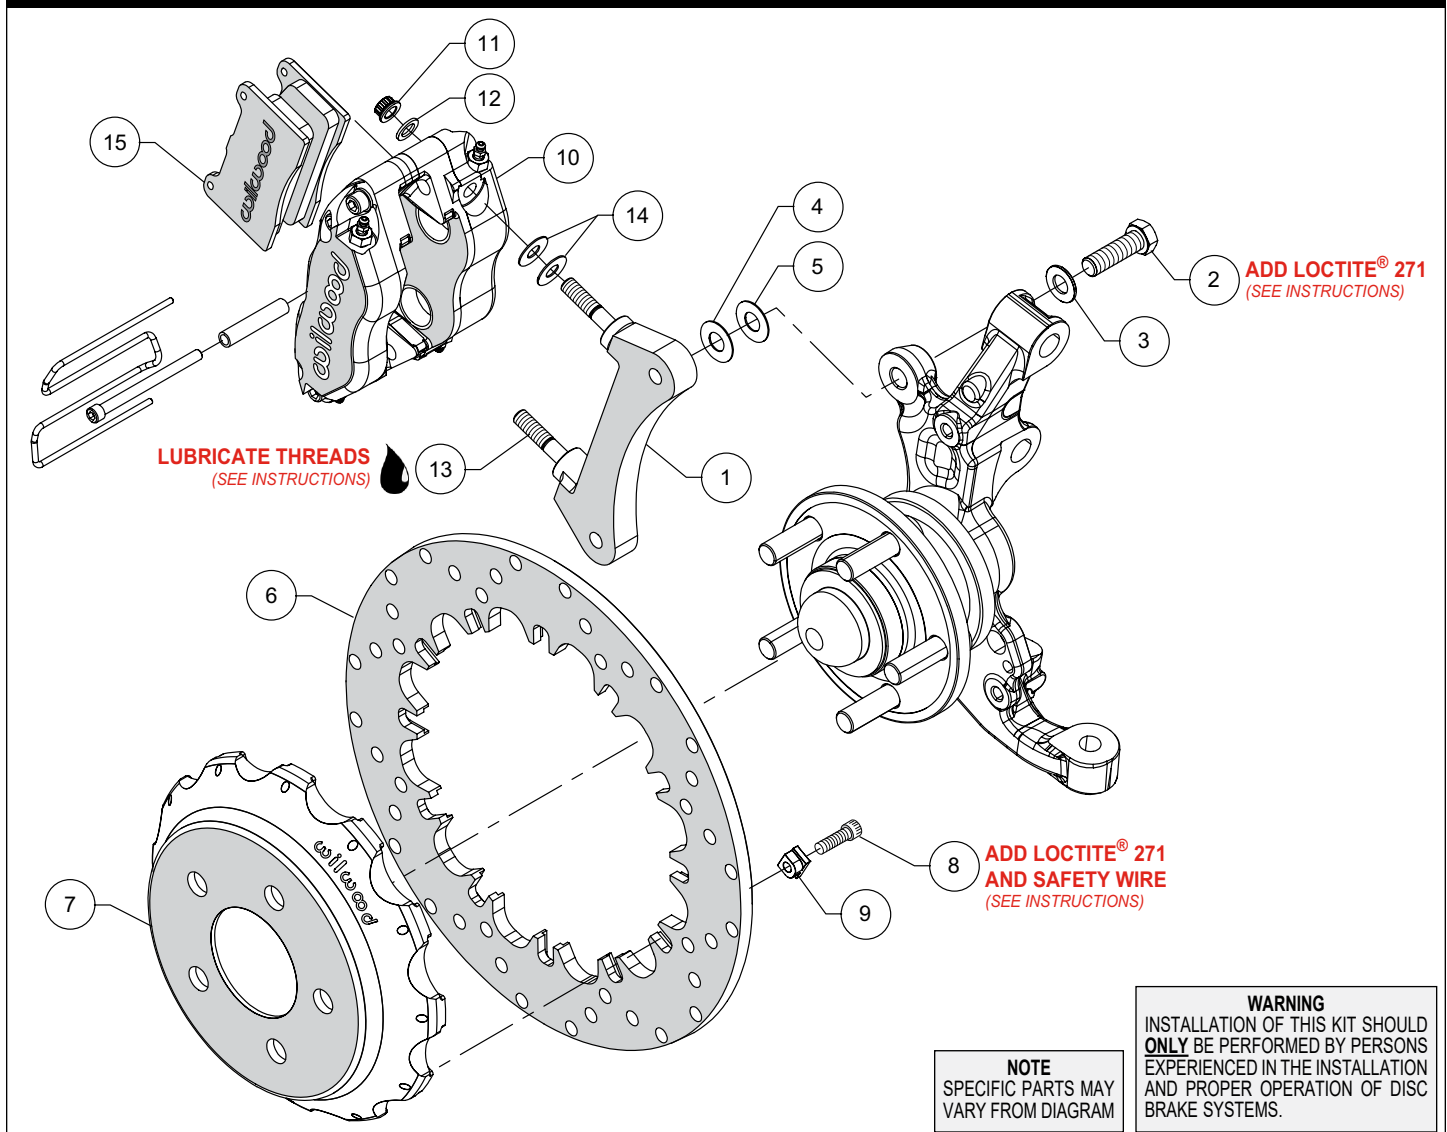
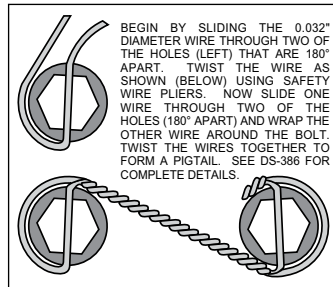

Figure 1. Typical Installation Configuration
Figure 3. Safety Wire Diagram
NOTE: Numbers in parenthesis refer to the parts list and Figure 1 on the preceding pages.
- The caliper mount bracket (1) should initially be installed with clean, dry threads on the mounting bolts. Orient the bracket, as shown in Figure 1 and Photo 1, and install using bolts (2) and washers (3). Initially place one .033" thick shim (4) on each bolt between the bracket and upright, Figure 1. Temporarily tighten the mounting bolts. **NOTE:** The bracket must fit squarely against the mount bosses on the upright. Inspect for interference from casting irregularities, machining ridges, burrs, etc. Later, after the caliper alignment has been checked, the mount bolts will be secured using red *Loctite*® 271.
- Orient the rotor (6) and the hat (7) as shown in Figure 1 and Photo 2. Attach rotor to hat using bolts (8) and t-nuts (9). Apply red *Loctite*® 271 to the bolt threads and torque to 120 in-lbs using a criss-cross pattern. The bolts must be safety wired using standard 0.032 inch diameter stainless steel safety wire as shown in Figure 3. Refer to Wilwood's data sheet DS-386 (available at www.wilwood.com/Pdf/DataSheets/ds386.pdf) for complete safety wire installation instructions.
- Lubricate the caliper mounting studs (13) with lightweight oil. Initially place two .035" thick shims (14) on each stud as shown in Figure 1 and Photo 4. Mount the caliper (10) onto the bracket (1) using lock nuts (11) and washers (12), Figure 1. Temporarily tighten the lock nuts and view the rotor through the top opening of the caliper. The rotor should be centered in the caliper, Photo 5. If not, adjust by adding or subtracting shims (4 and/or 5) between the bracket and the mounting bosses. Once the caliper alignment is correct, remove the bracket mounting bolts one at a time, apply red *Loctite*® 271 to the threads, and torque to 60 ft-lbs.
- Insert the brake pads (15) into the caliper with the friction material facing the rotor (6), as shown in Figure 1 and Photo 6. Check that the top of the brake pad is flush with the outside diameter of the rotor, Photo 7. If not, adjust by adding or subtracting shims (14) between the caliper and the bracket. After the caliper pad height is set, torque the caliper lock nuts (11) to 30 ft-lb. Secure the pads in place using the pad clip retainer as well as the center bridge pad retainer tube, bolt, and locknut, Photo 8. The locknut should be snug without play in the bolt or tube. Be cautious not to over tighten.